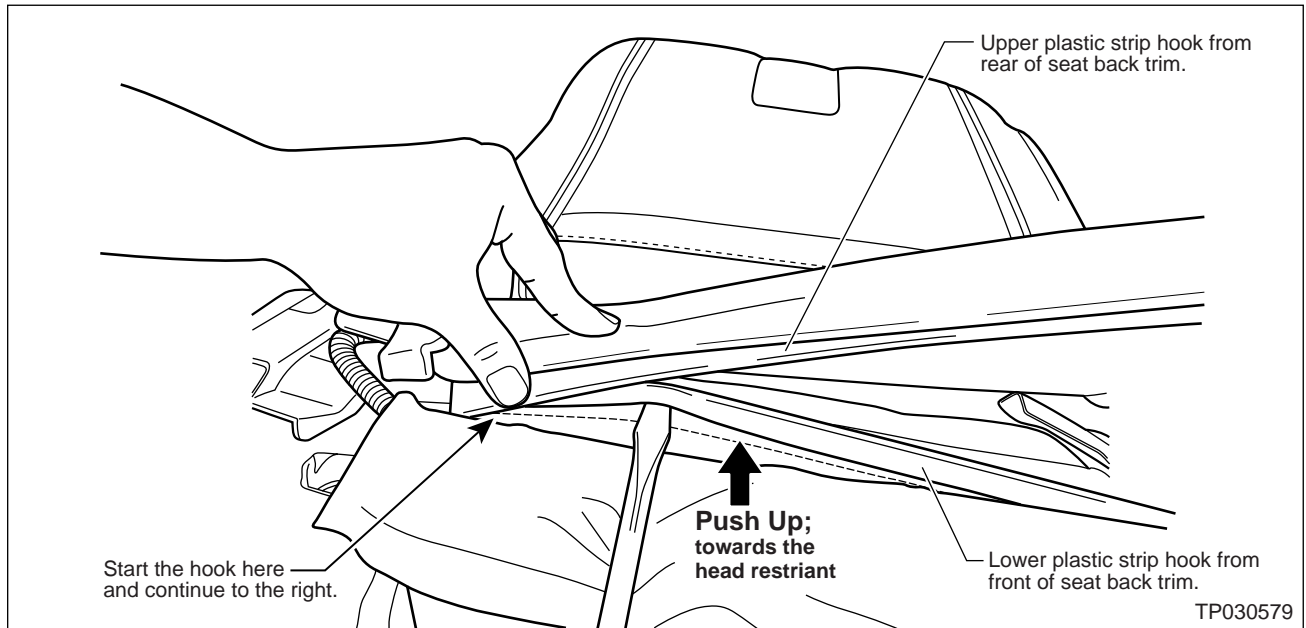

Figure 18
20. Connect the seat trim plastic strip hooks at the base of the seat back (see Figure 18).